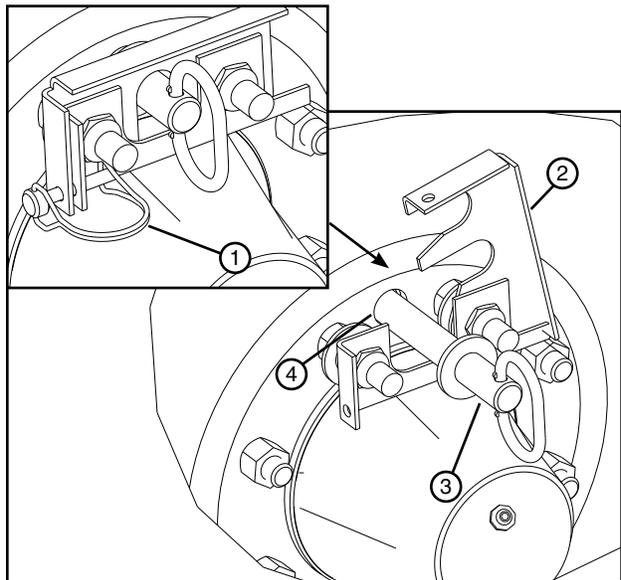

Figure 32-2 1. Lynch Pin 2. Retainer Clip 3. Torque Pin 4. Hub Torque Pin Receiver
5. Remove lynch pin from retainer clip, then open retainer clip and pull the torque pin from axle torque arm behind gearbox hub and hub torque pin receiver. See figure 32-2.